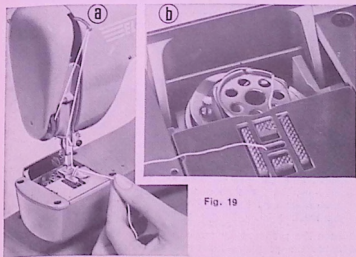

Fig. 19
- the lower thread crosses the bobbin properly (see Fig. 19 b) ;